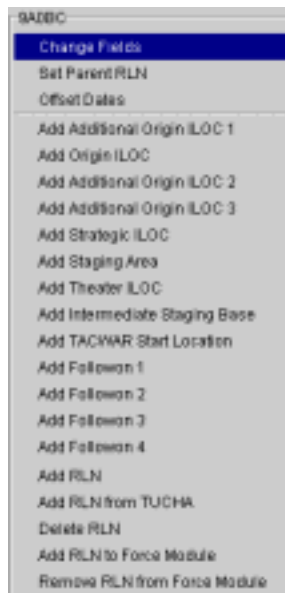

Figure 5.80 RLN Commands
4. Right-click the name of the RLN (e.g., 9A0BC) to be deleted. A menu of RLN commands opens (Figure 5.80) with the Change Fields command highlighted.